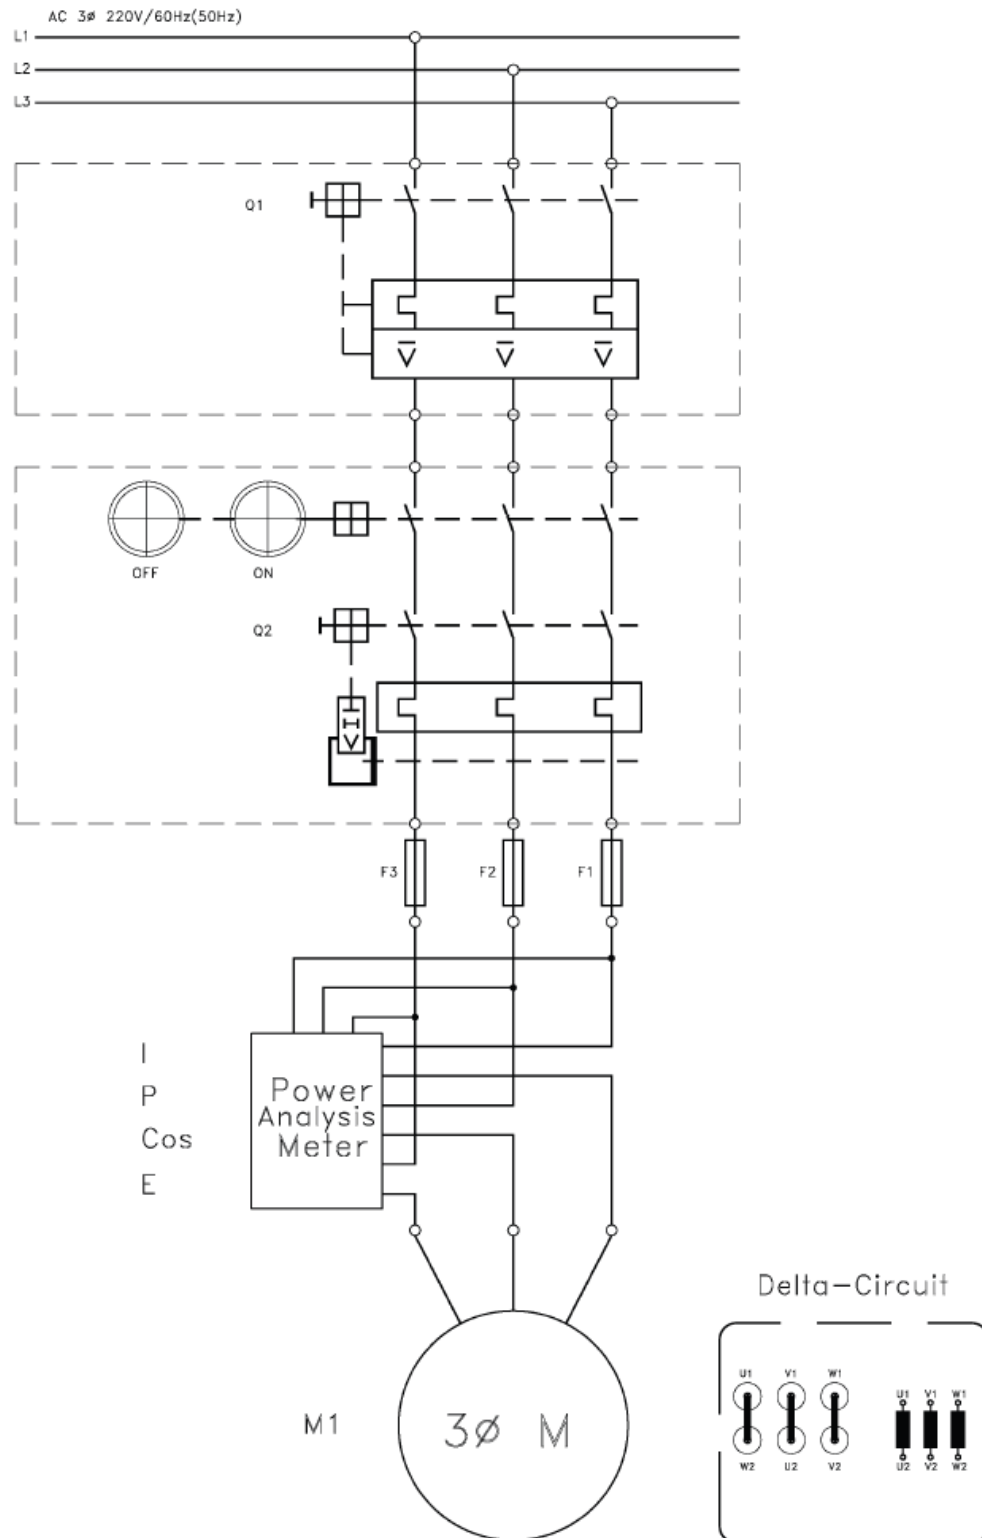
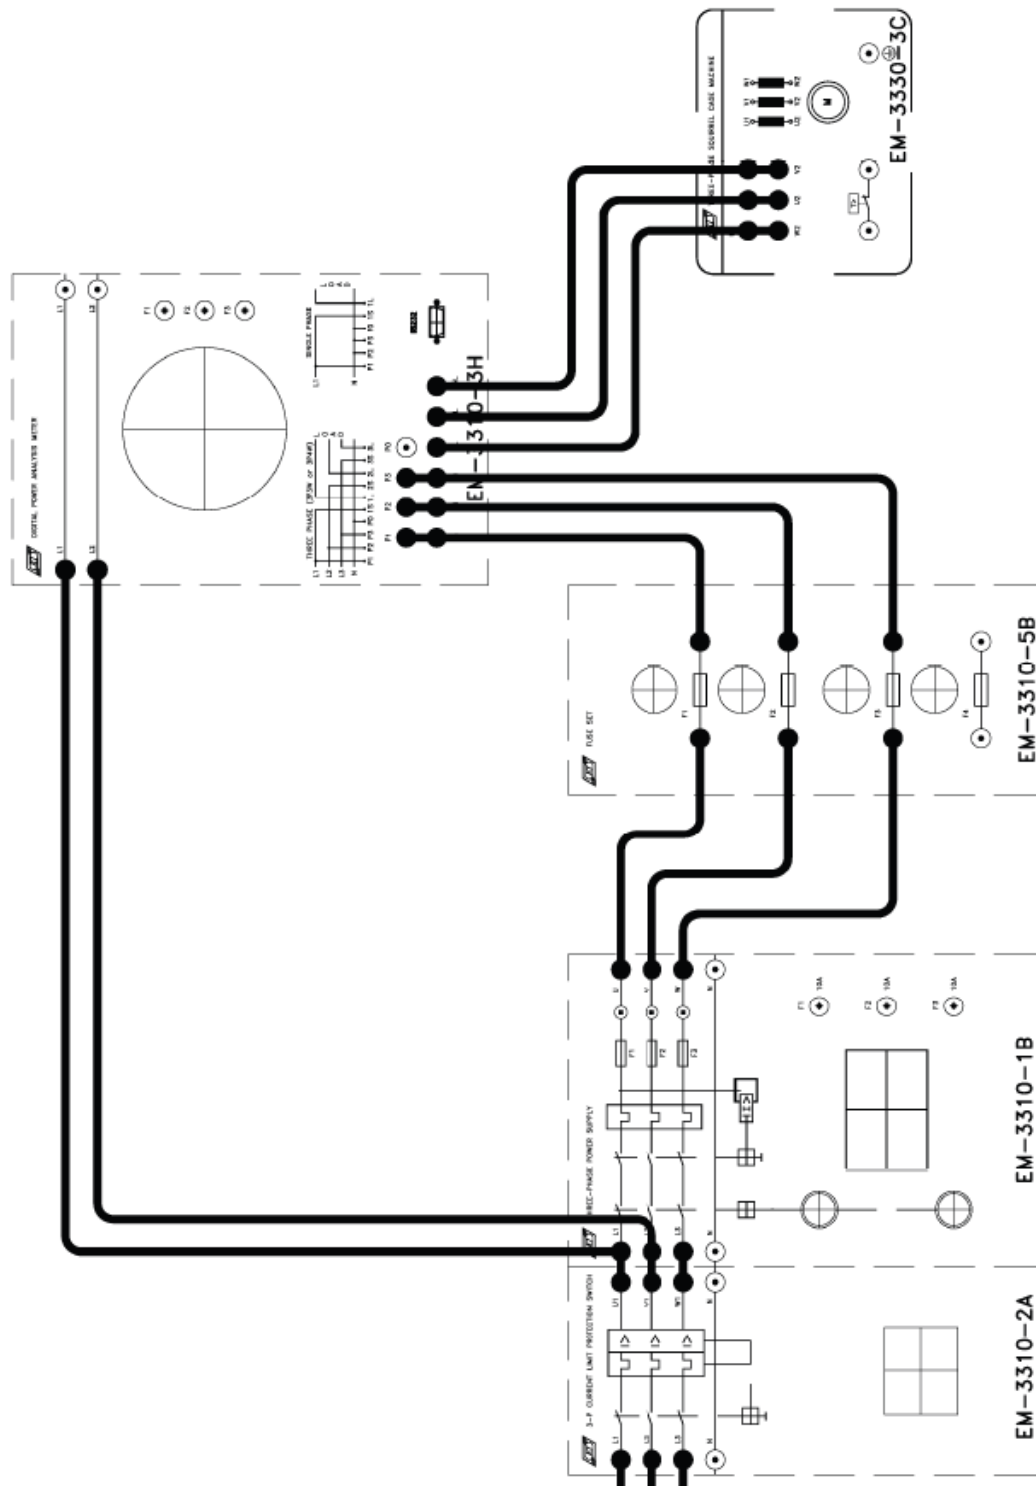

Fig. 12-4-1 Circuit diagram for no-load test
Fig. 12-4-2 Connection diagram for no-load test
1. Install the required Modules in the Experimental Frame. Place the Three-phase Squirrel Cage Motor on the Laboratory Table. Construct the circuit in accordance with the circuit diagram in Fig. 12-4-1 and the connection diagram in Fig. 12-4-2. Have the instructor check your completed circuit.